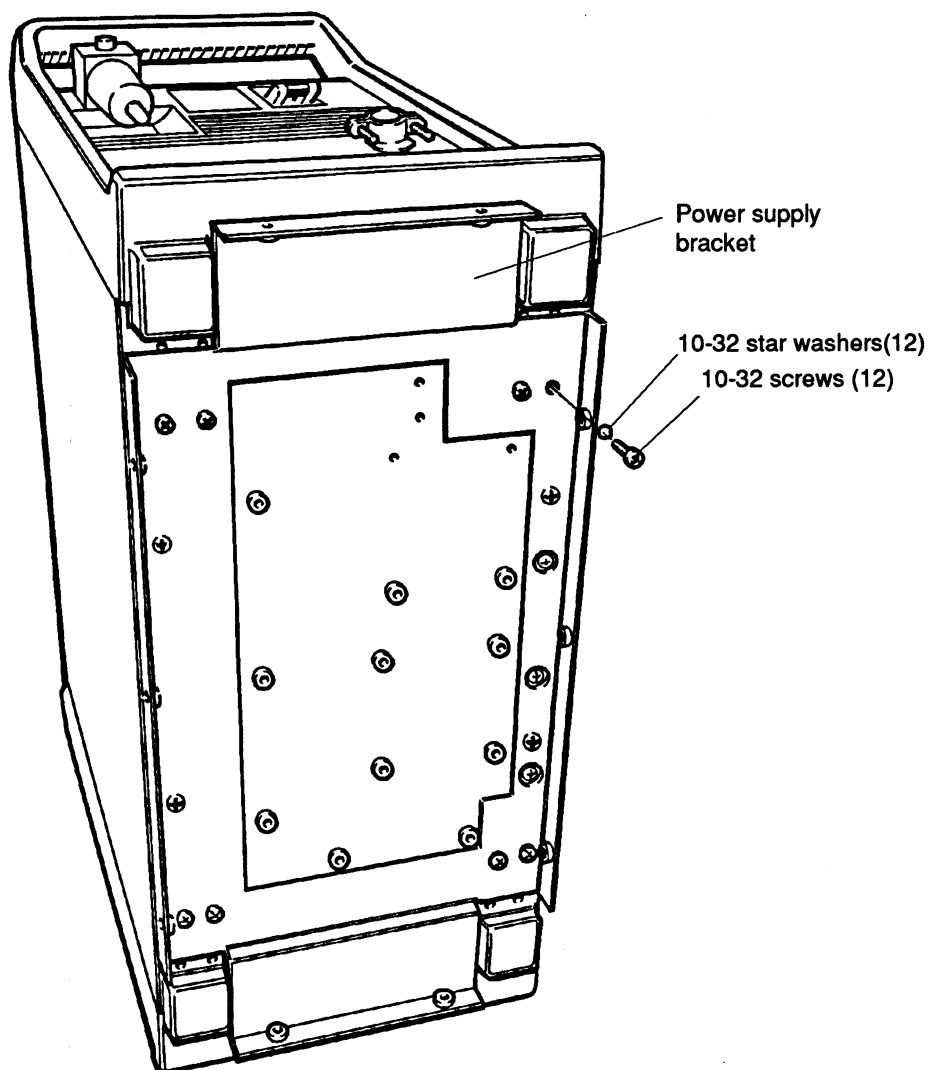

Figure 2-5 Attaching 600V Power Supply Bracket to Powermax800 Chassis
4. Lay down a cloth or towel in front of the Powermax800 and carefully tilt Powermax800 over onto its front handle as shown in Figure 2-5.
5. Place power supply bracket against bottom of power supply as shown in Figure 2-5 and fasten with 10-32 screws and star washers in 12 locations.